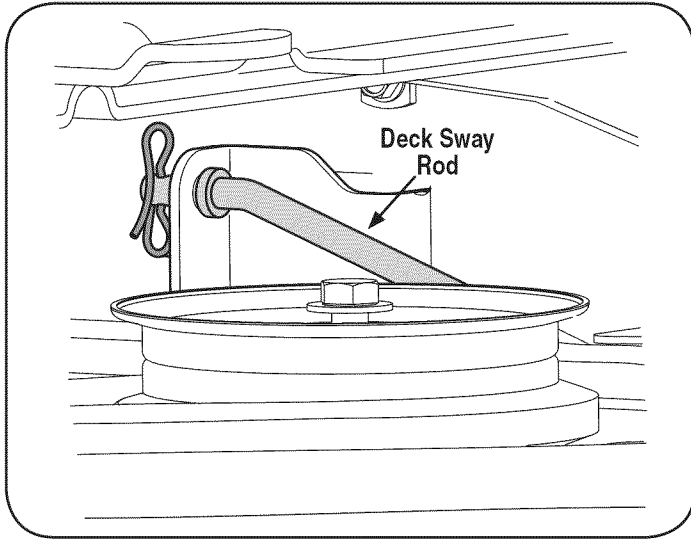
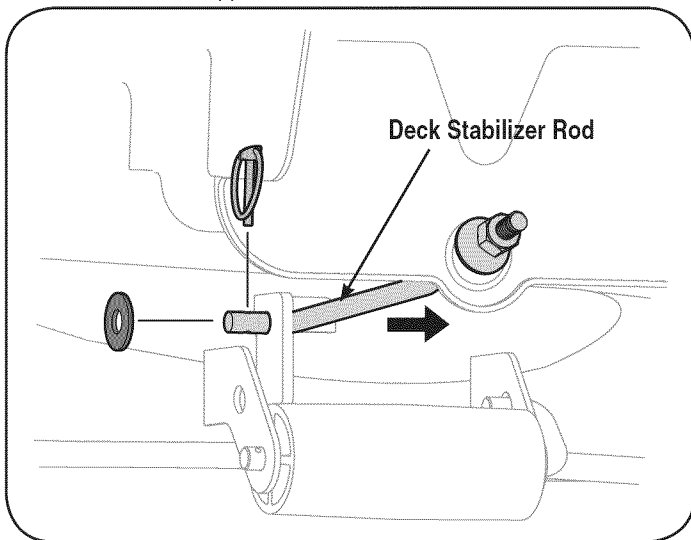

Figure 13
Figure 14
9. Remove the bowtie cotter pin connecting the deck sway rod to the tractor frame. See Figure 13.
10. Remove the click pin and flat washer as shown in Figure 14. Then slide the deck support rod out of the deck mount.
10. Reinstall the deck sway rod (See Figure 13) and deck stabilizer rod (See Figure 14).